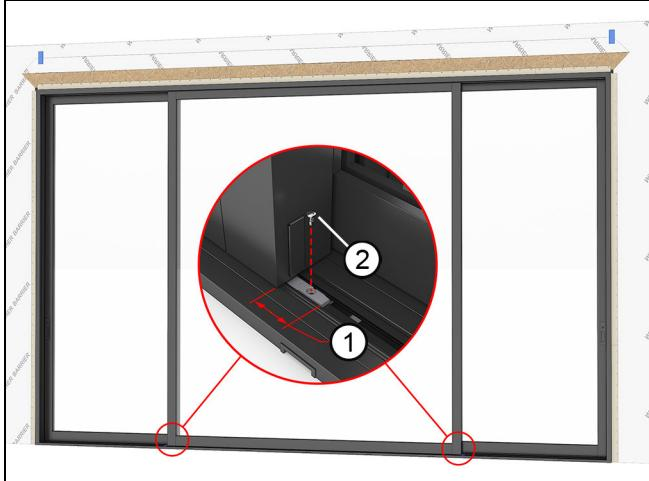

Figure 153 XOX
7. On both sides of the (K) panel, snap the lower stationary brackets onto sill, then slide underneath the stationary panel until fully seated. Each bracket should stick out approximately $2\frac{1}{4}$ " (57) from the panel when fully seated. Fasten the brackets with #8 x 1/2" self drilling screws. See Figure 153.